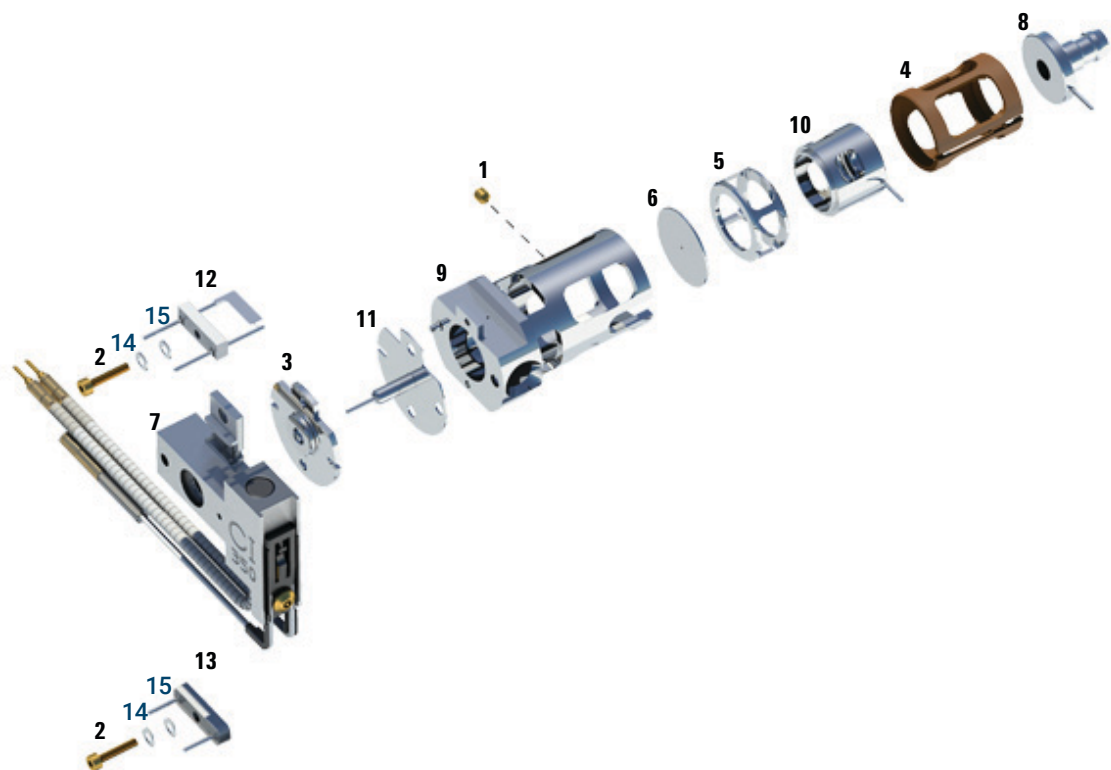

Figure 79. CI source exploded view
Refer to the exploded parts view and the CI source parts list while using this procedure. (See **Figure 79** and **Table 20** on page 236.)
- 1 Assemble the ion focus lens, entrance lens, and lens insulator. (See **Figure 79** and **Table 20** on page 236.)
- 2 Slide the drawout plate and the drawout cylinder into the source body. (See **Figure 79** on page 236.)
Table 20 Parts list for CI source (Figure 79)
Table 20 Parts list for CI source (Figure 79) (continued)